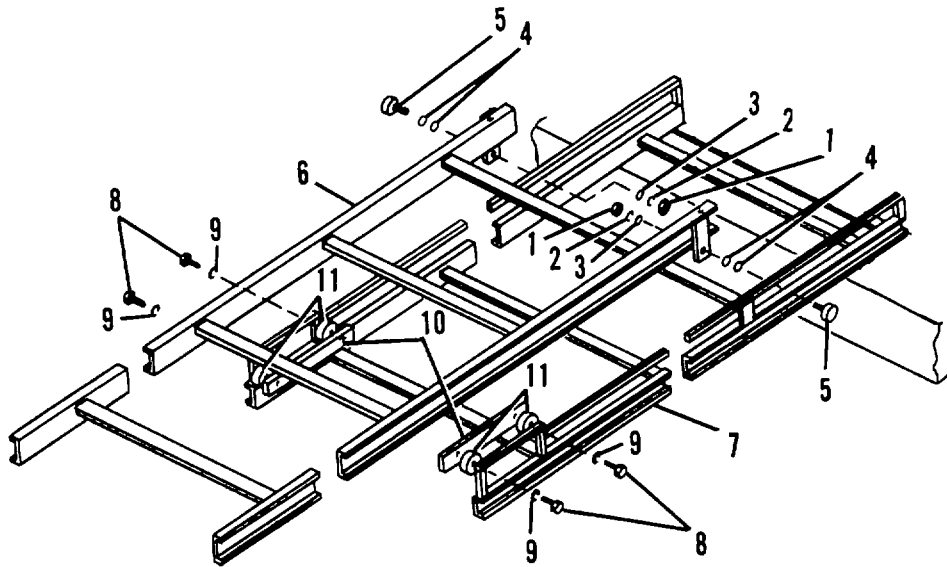

Figure 4-34. Ladder Rollers.
- (1) Remove two nuts (1, Figure 4-34), lockwashers (2), flatwashers (3) and shims (4).
- (2) Remove rollers (5).
- (3) Slide outside section (6) off inside section (7).
- (4) Remove four capscrews (8), four washers (9), two blocks (10) and four spacers (11).